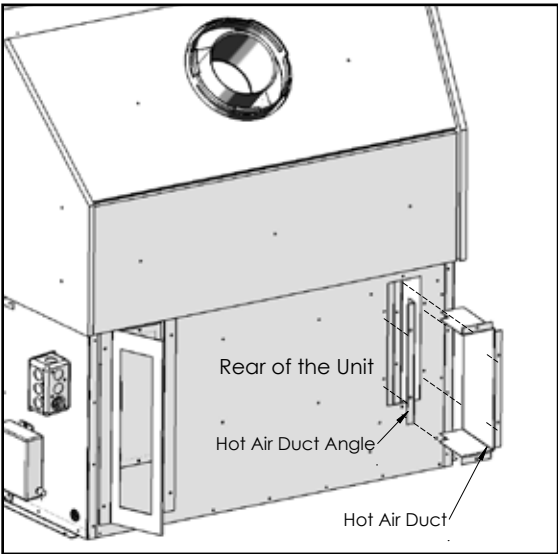

Figure 3: Install the hot air ducts.
- 2. Insert the hot air duct and the hot air duct angle into the cut out (refer to Figure 3). Secure the ducts to the back of the fireplace through the pre-drilled holes with hex head